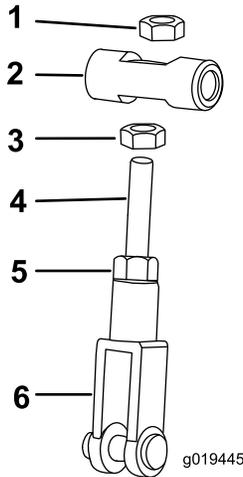

Figure 28
4. Loosen the nut on the upper end of the linkage rod to allow slack in the lift cable (Figure 28).